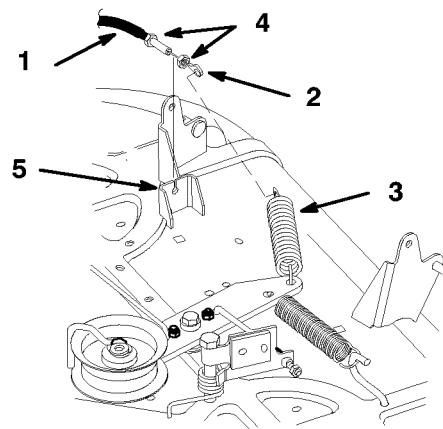

Figure 40
6. Unhook the blade control (PTO) cable ring end from the idler spring (Fig. 40).
7. Remove jam nut from blade control (PTO) cable at mounting bracket. Slide the cable from the bracket (Fig. 40).